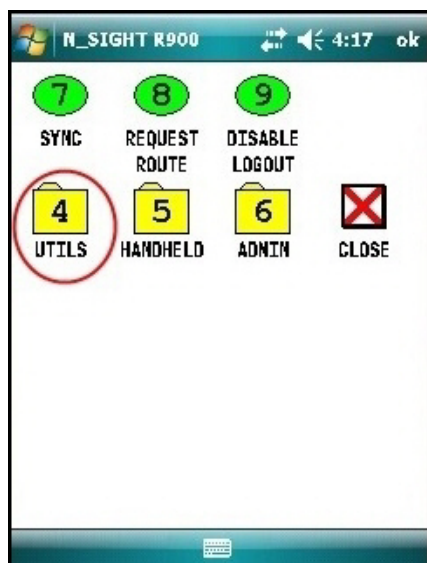

Figure 47 N_SIGHT R900 Menu Screen
- 2 From the HHU Menu screen, click **UTILS** (option 4). See Figure 47.